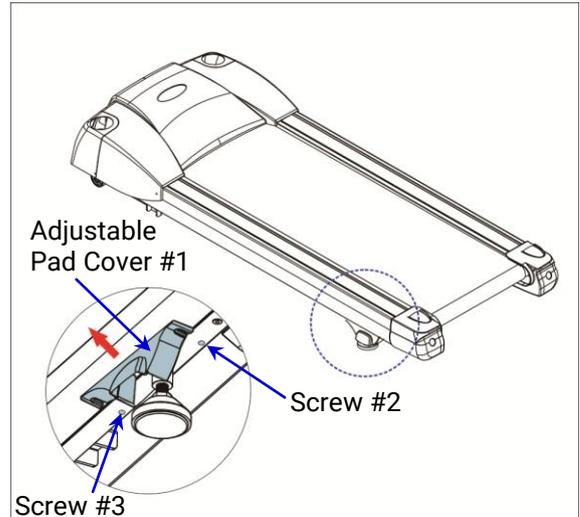

Fig 2.6-1
**NOTE:** Please remove the (Right /Left) **Adjustable Pad Cover #1** by removing the **Screw #2** & **Screw #3** before leveling adjustment. (Fig 2.6-1)